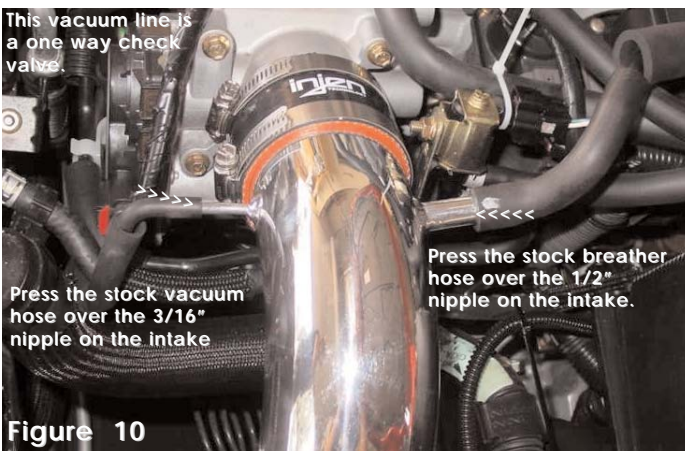

Figure 10
- 8- Press the stock one way check valve over the 3/16 nipple(port) on the intake and press the stock breather hose over the 1/2" nipple(port) facing the firewall side.(See fig. 10)